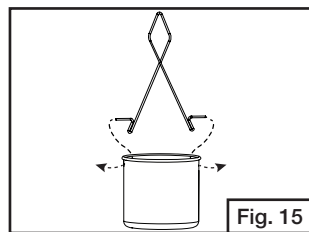

Fig. 15
- Squeeze the grease cup holder toward center and attach the grease cup. (Fig. 15)